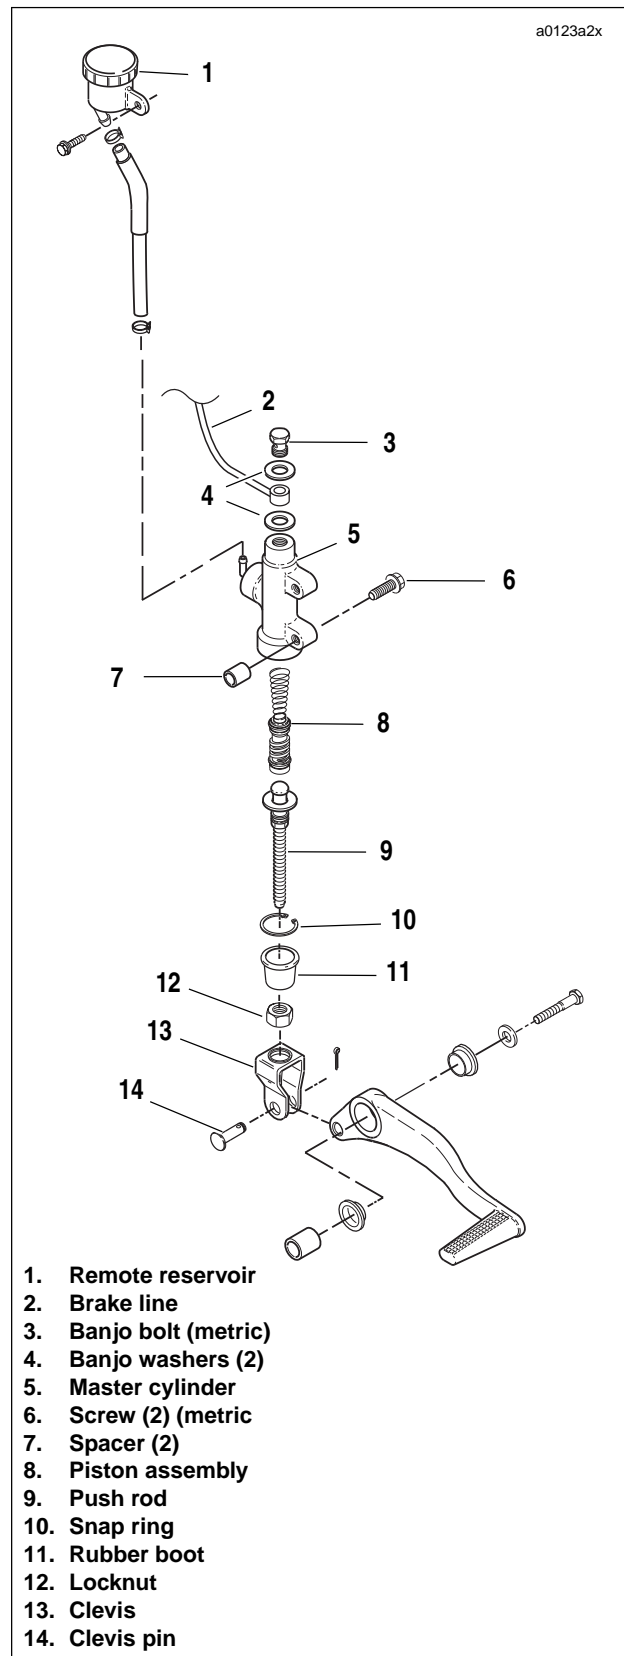

Figure 2-53. Rear Master Cylinder Assembly
3. See Figure 2-53. Connect brake line (2) to master cylinder (5) with two **new** banjo washers (4) and banjo bolt (3) (metric). Tighten to 16-20 ft-lbs (22-27 Nm).
4. Install push rod (9) by screwing push rod into clevis (13).